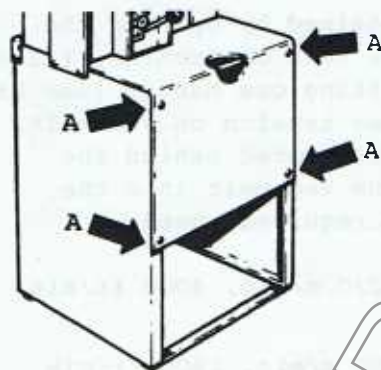
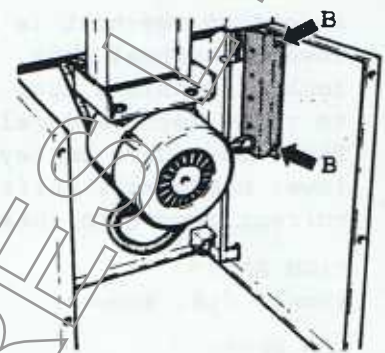

Fig.2.
Fig.3.
Remove rear cover from cabinet base, by means of four screws (A), see Fig.2. Remove terminal cover, two screws (B), see Fig.3. Pass supply leads through grommet in cabinet base.